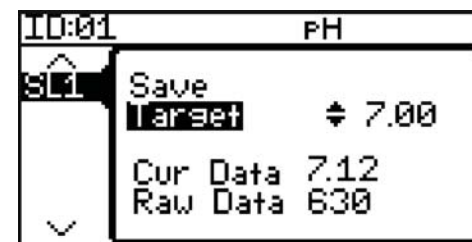

Figure 5d: Example calibration screen
1. To Calibrate, highlight "Calibrate Probe" and touch [Enter]. The right window will change to the calibration screen, see figure 5d.